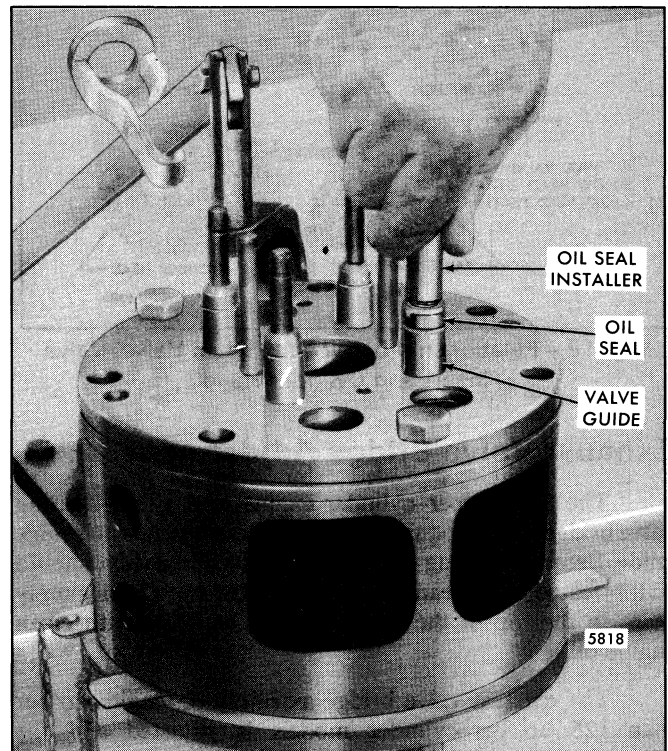

Fig. 18 - Installing Valve Guide Oil Seal
- b. Lubricate the protector cap with clean engine oil and start the seal carefully over the valve stem. Push the seal down slowly until the seal rests on the top of the valve guide (Fig. 18). Tool J 25251 can be used to facilitate installing the seal.